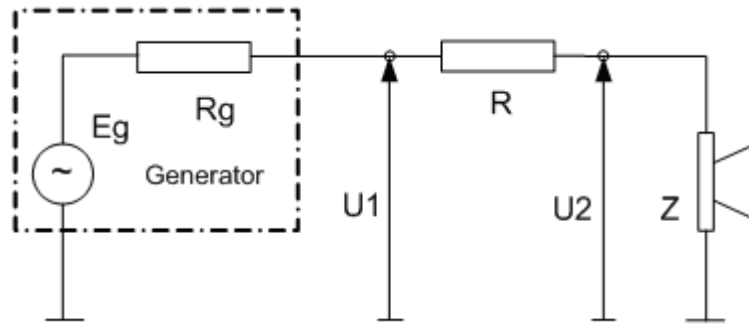

Figure 2.1 A circuit for loudspeaker impedance measurement
The measurement of the loudspeaker impedance is based on the system shown in Fig. 2.1. The referential resistor R is connected between the signal generator and a loudspeaker impedance Z .
1. The *LIMP* generates burst of sine signal with frequency f . We assume that this signal drives the generator shown in Fig. 2.1.
3. The magnitude and phase of signal u_1 and u_2 at frequency f are estimated by finding fundamental sinusoidal components U_1 and U_2 at generator frequency f . It is done by directly solving Fourier integral in *integration time* T . These fundamental harmonics are used in the equation (1) to calculate the impedance Z .
1. The *LIMP* generates the Pink PN as a discrete periodic sequence with a period equal to N . We assume that this sequence drives the generator shown in Fig. 2.1.
3. The DFT is applied to time series u_1 and u_2 to get spectral components $U_1(f)$ and $U_2(f)$. They are used in the equation (1) to calculate the impedance $Z(f)$.